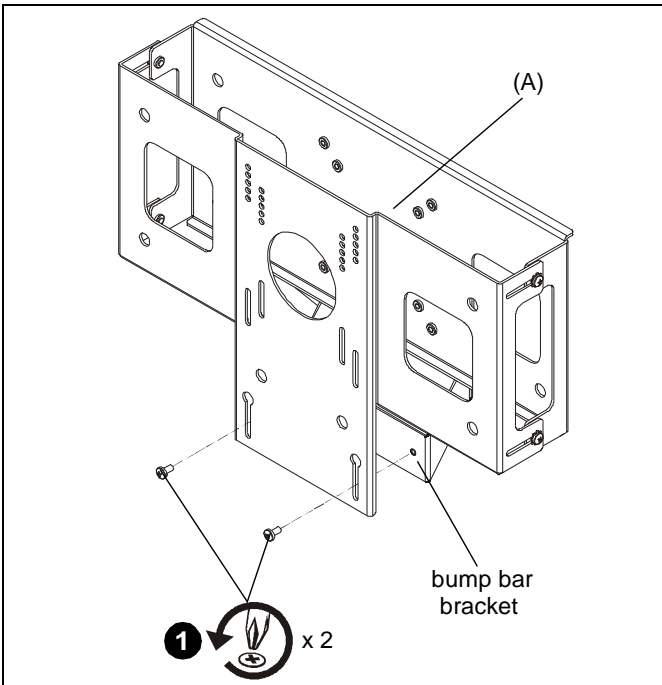

Figure 1
1. Remove bump bar bracket from interface bracket (A) by unscrewing the two screws holding it to the interface bracket. (See Figure 1)